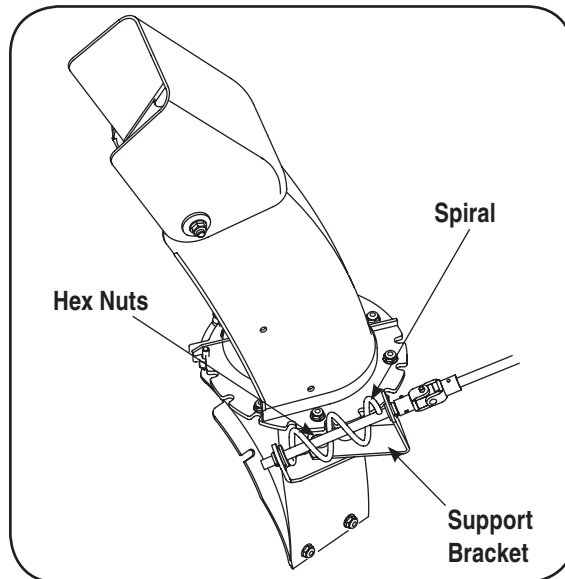

Figure 11-2
1. Loosen, but do NOT remove the two hex nuts which secure the support bracket to the snow thrower housing. See Fig. 11-2.